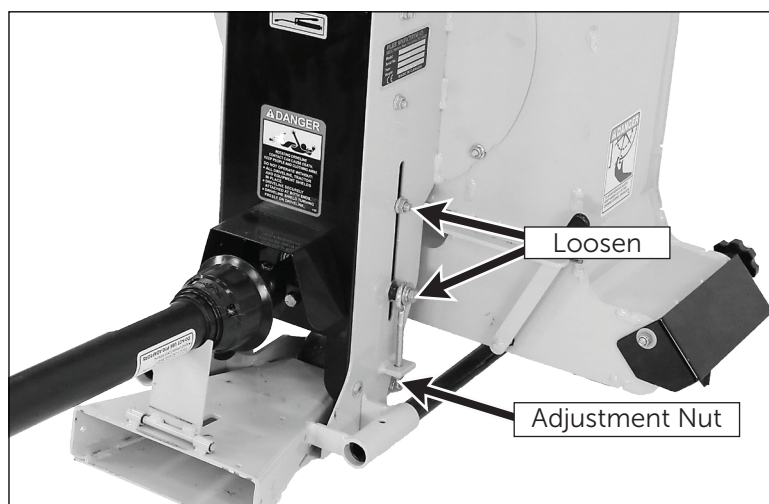

Figure 3.1
1. Remove the belt guard from the debris blower housing removing the four (4) carriage bolts securing it to the housing.
2. Loosen the two (2) nuts and two (2) bolts that secure the lower bearing support and turn the adjustment nuts on each side until the required tension is reached (figure 3.1).